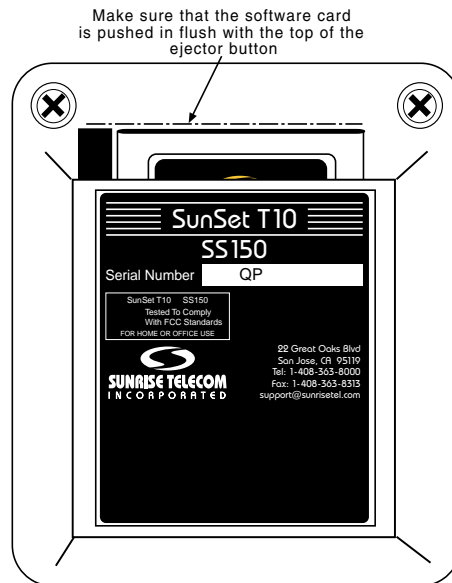

Figure 2 Cartridge After Installation
- A. Figure 2 shows the cartridge after installation. Be sure that the top of the cartridge is in line with the top of the ejector button to the left.